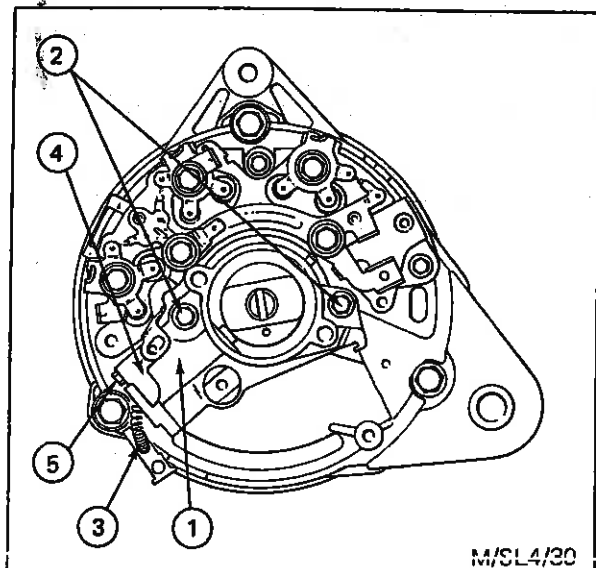

Fig. 52 - Replacing the Brush Box
2. Place the brush box (1) in position and secure with the two screws (2) - see Fig. 52.